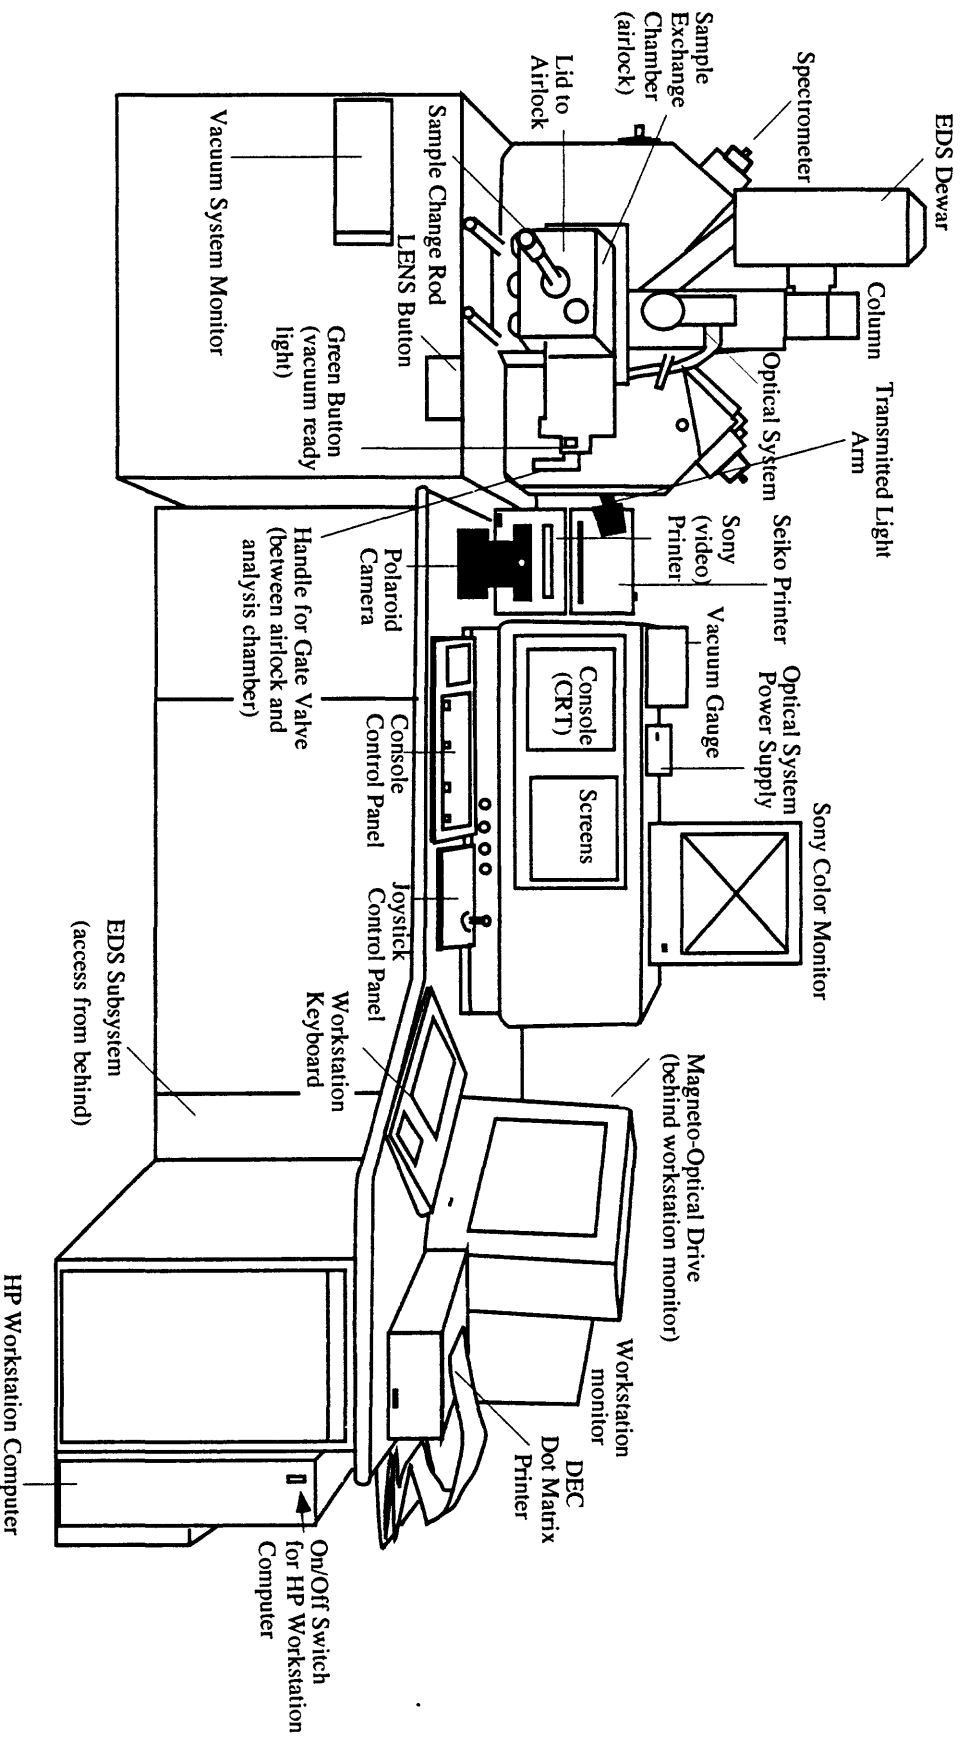

Figure 3.1. Hardware layout of USGS microprobe laboratories.
Differences from the standard layout illustrated in Figure 3.1 for Reston include the following: the SONY thermal printer and the Polaroid camera are located to the left of the console, as is the vacuum gauge. The Seiko color printer is to the right of the console behind the monitor, with a remote control button located near the monitor. The dot matrix printer is to the right of the monitor, and the magneto-optical disk drive is on top of the console. To the right of the HP monitor is a 386 PC for use in data transfer and image processing.
In Denver the only differences in the set up illustrated in Figure 3.1 are in the location of peripheral devices.
The instrument, console and workstation are a standard JEOL layout (Figure 3.1).
2. Check the vacuum on the vacuum gauge located on top of or adjacent to the main console (see Figure 3.1 or laboratory description). Except during or immediately after a sample change, or while the vacuum is recovering for some other reason, the vacuum should remain stable in the 10^{-6} torr range. Consult your lab supervisor for the optimal and acceptable vacuum reading at each location.